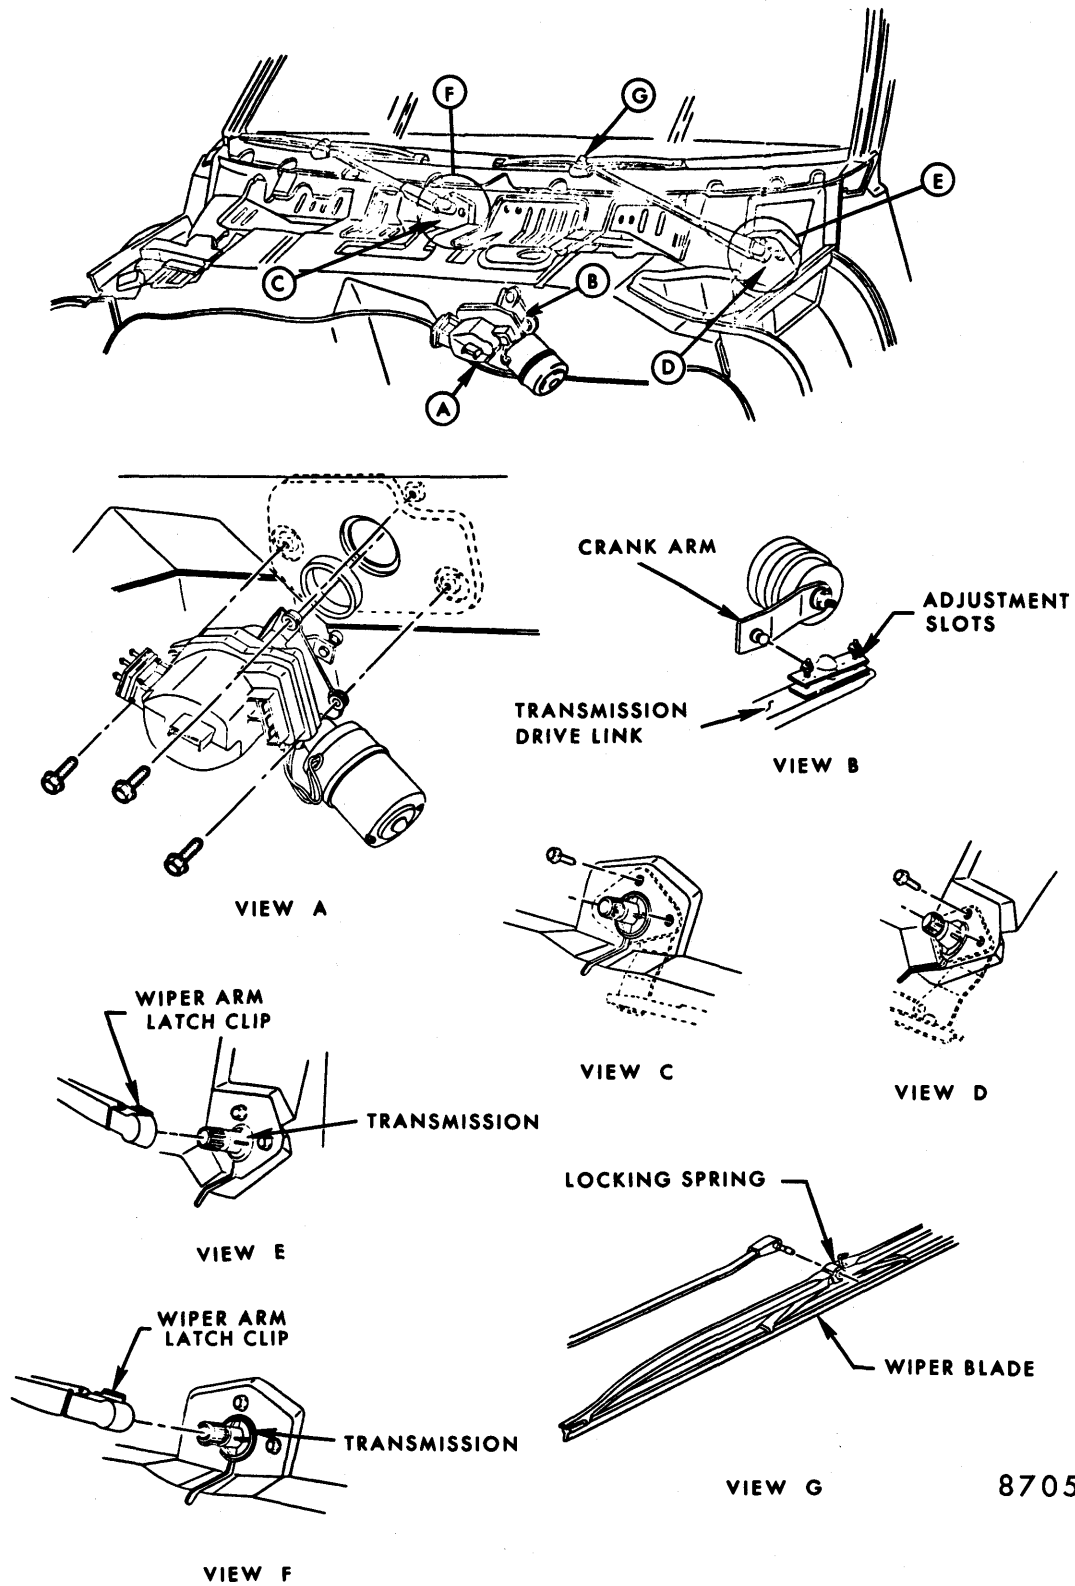

Fig. 2-50-Motor and Wiper Installation
Removal and Installation (Fig. 2-50)
2. Loosen (do not remove) attaching nuts securing transmission drive link(s) to motor crank arm (Fig. 2-50, View B).